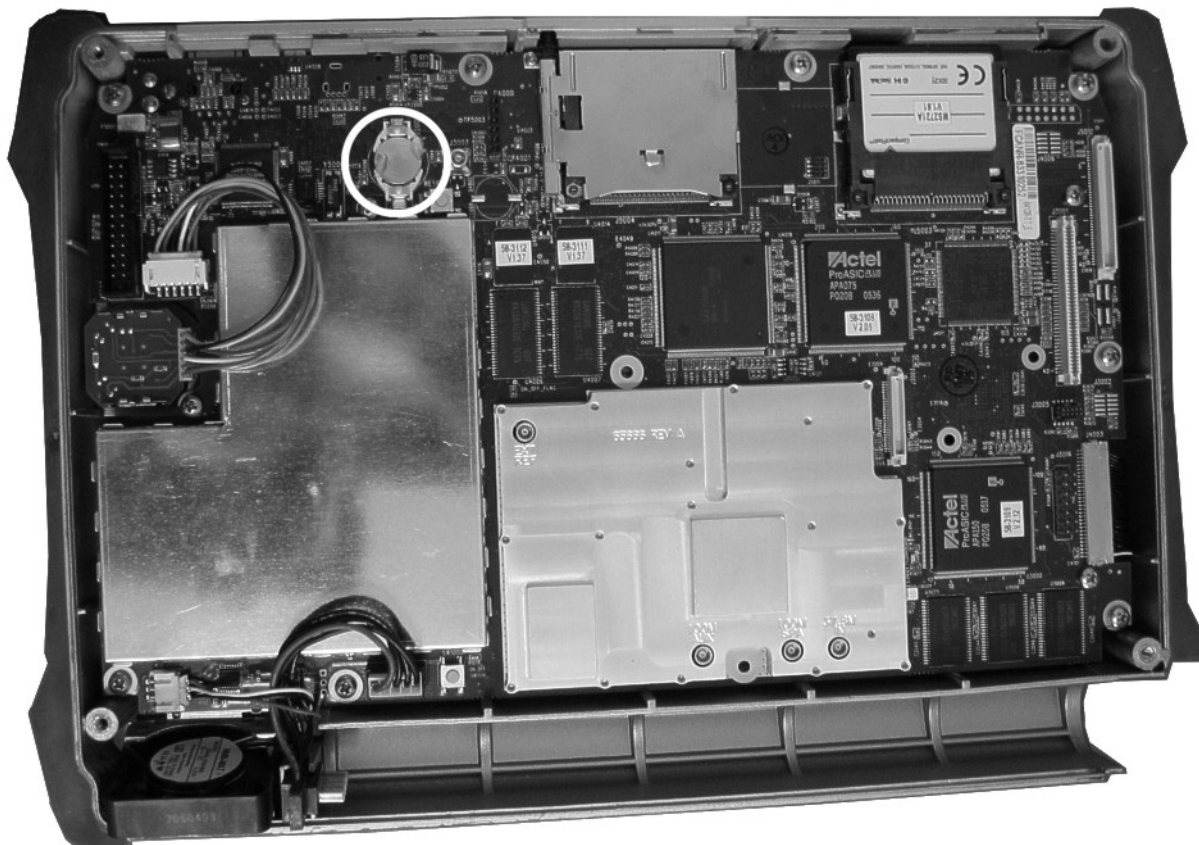

Figure 4-8. Real Time Clock (RTC) Battery
1. Refer to Figure 4-8 for the location of the RTC battery (circled). Refer to “Replaceable Parts” on page 1-4 for the replacement part number.